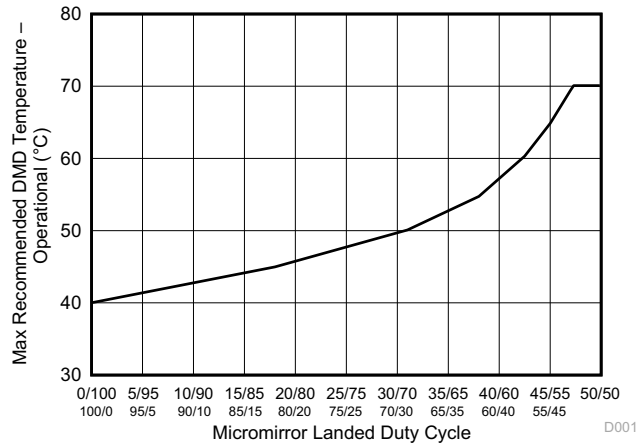

图 7-1. Maximum Recommended DMD Temperature – Derating Curve
- (6) Per 图 7-1, the maximum operational case temperature at test points TP1 and TP2 as shown in 图 8-3 or 图 8-4 should be derated based on the micromirror landed duty cycle that the DMD experiences in the end application. Refer to Micromirror Landed-on/Landed-Off Duty Cycle for a definition of landed duty cycle.
- (7) Long-term is defined as the average over the usable life.